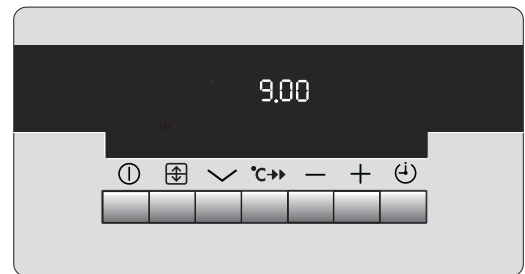

Fig.9.
- i) Ensure the electricity supply is switched ON and that the correct time is displayed, e.g. 9.00 a.m. as Fig. 9.